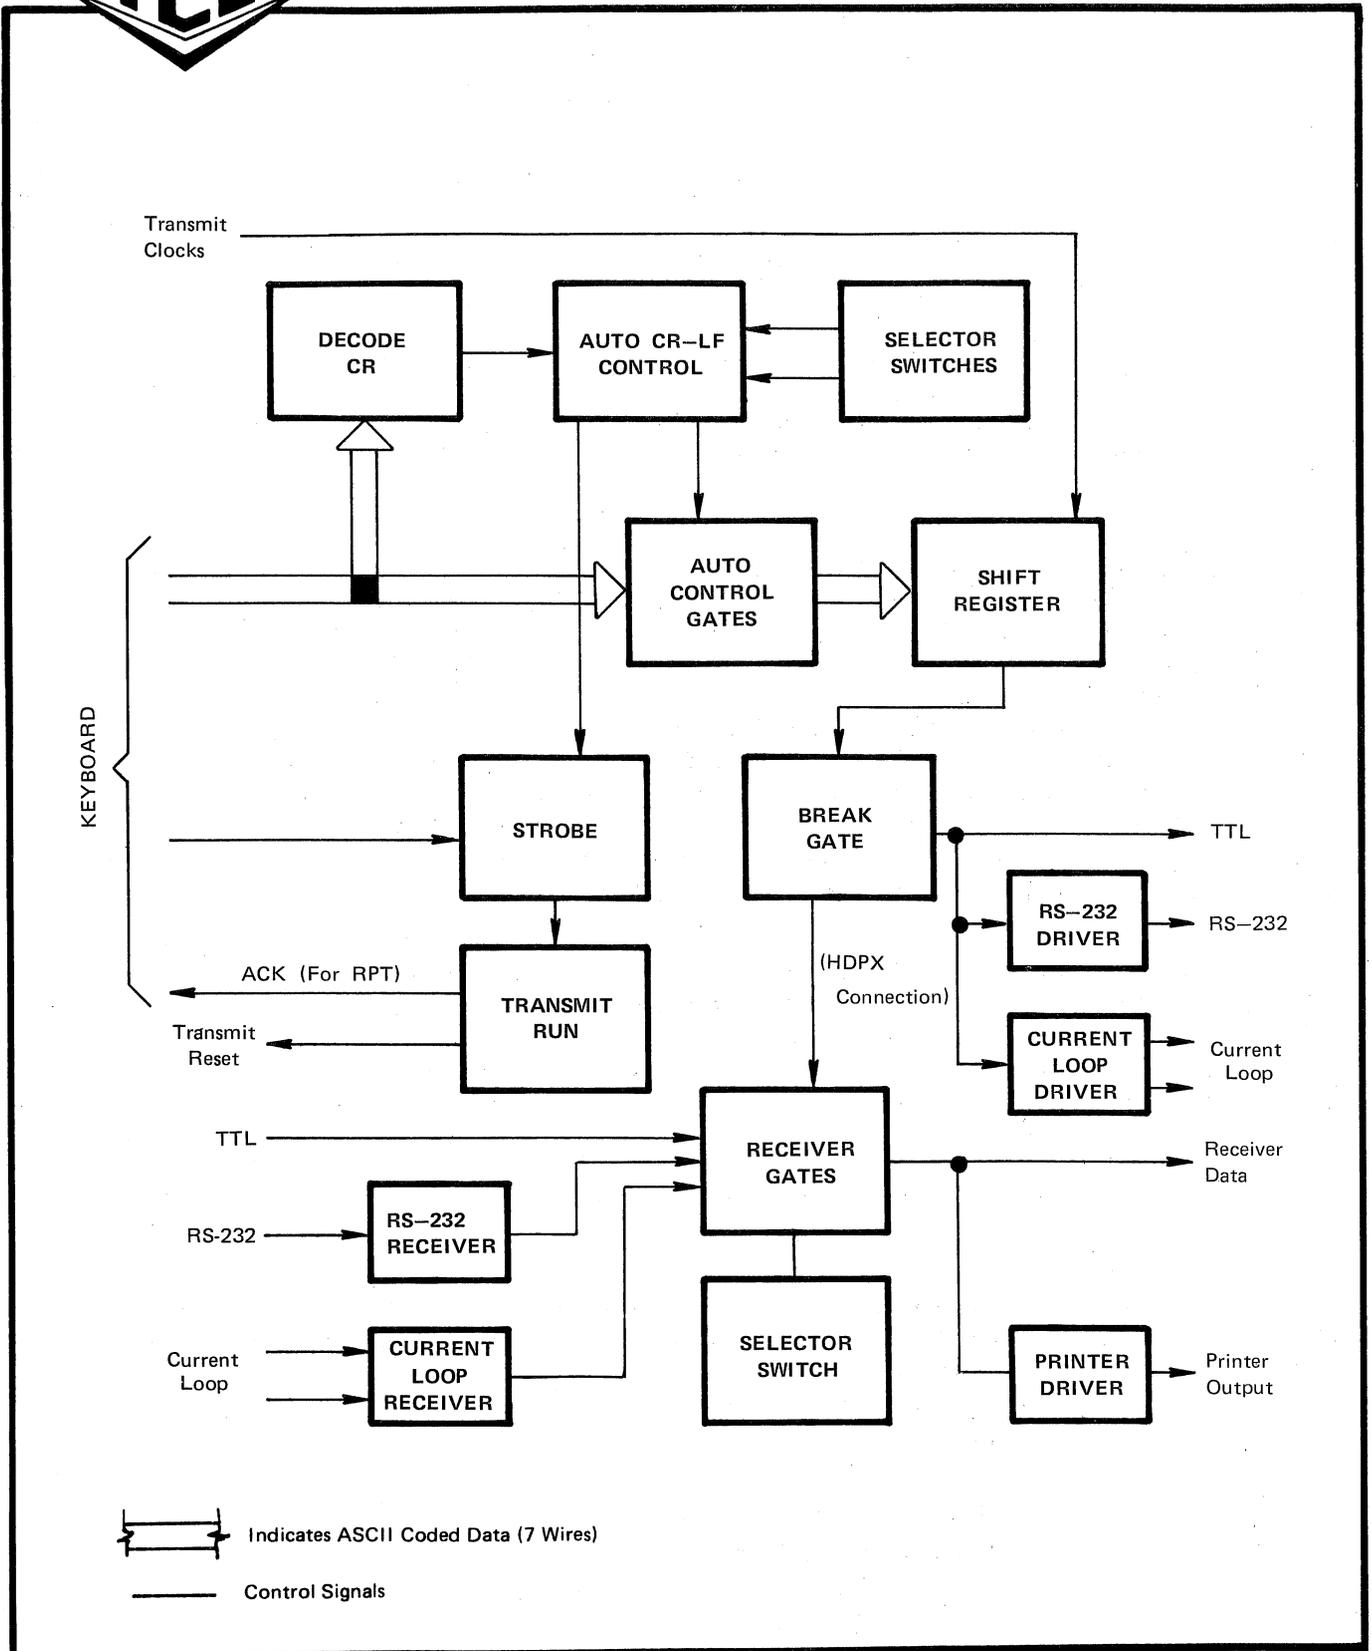

FIGURE 13 FUNCTIONAL DIAGRAM - TTY INTERFACE
**TTY INTERFACE — Board No. 6 See Functional Diagram, Figure 13,